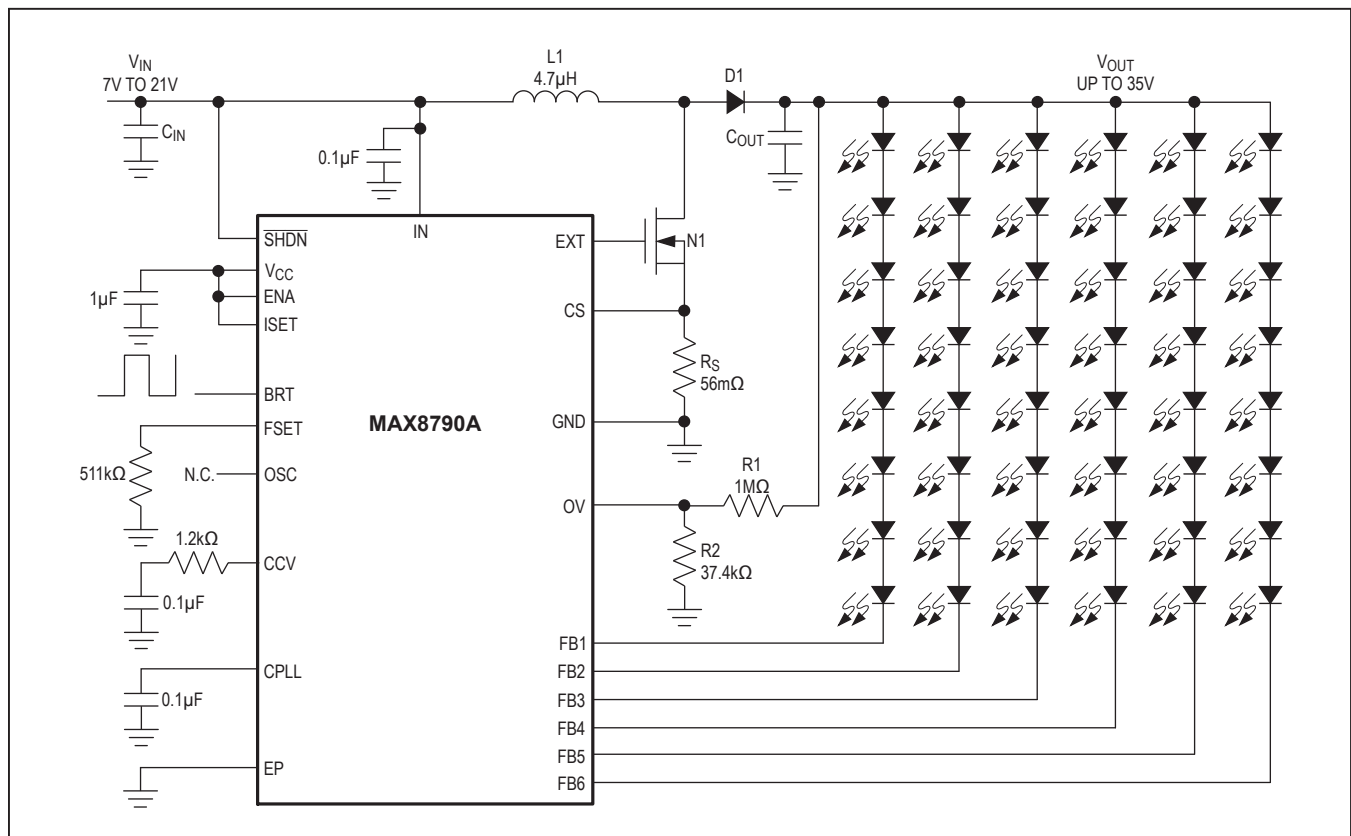
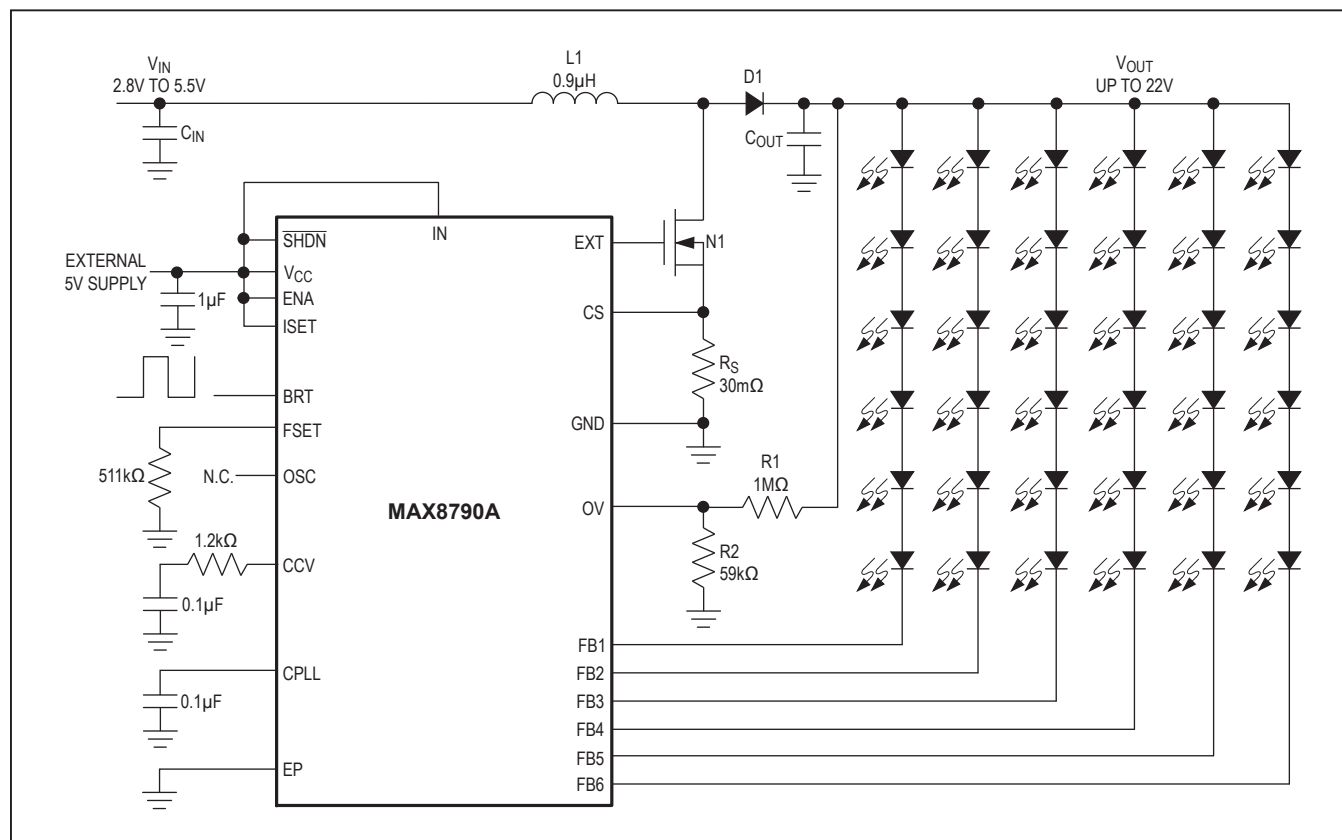

Figure 1. Typical Operating Circuit
Figure 3. Low-Input-Voltage Application Circuit
**Electrical Characteristics (continued)**(Circuit of Figure 1.  $V_{IN} = 12V$ ,  $V_{SHDN} = V_{IN}$ ,  $CCV = 0.1\mu F$ ,  $T_A = -40^{\circ}C$  to  $+85^{\circ}C$ , unless otherwise noted.) (Note 2)
To protect the step-up converter when the load is open, or the output voltage becomes excessive for any reason, the MAX8790A features a dedicated overvoltage feedback input (OV). The OV pin is connected to the center tap of a resistive voltage-divider from the high-voltage output (see Figure 1). When the MAX8790A is powered up, if none of the LED strings on FB1–FB6 are connected to the step-up converter output, the step-up converter regulates the output voltage to  $V_{OUT} = 1.23V(1 + R1 / R2)$ . When  $V_{OV}$  exceeds 1.23V, a comparator turns off N1. The step-up converter switch is reenabled after the output voltage drops below the protection threshold.
| CIRCUIT                           | FIGURE 1                                                                        | FIGURE 1                                                                                                  | FIGURE 1                                                                              | FIGURE 3                                                                        |